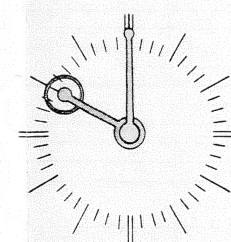

Fig. 13A
1. Turn the time adjust control and set the time exactly on the hour (zero minutes). (Refer to fig. 13A)